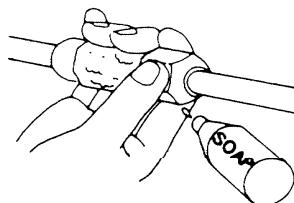

Fig.8
- a) Check gas leakage of all joints with liquid soap. Fig. 8